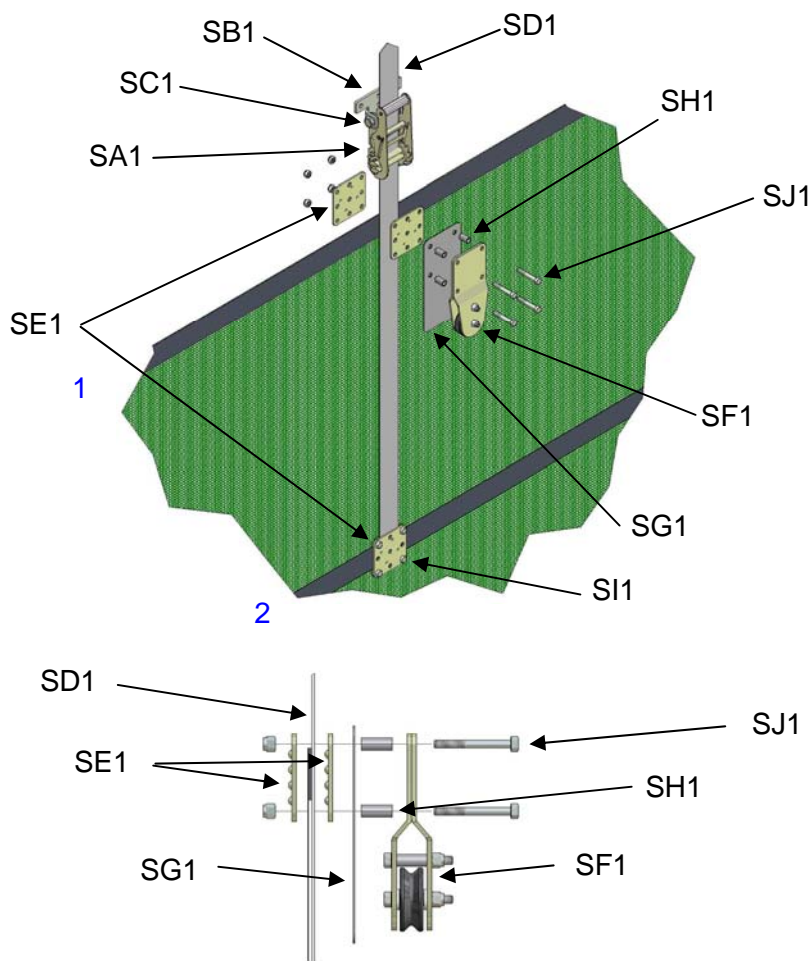

Figure 17
5.2 Fix the Ratchet (SA1) to the Ratchet Bracket (SB1) with the M12 x 90mm bolt (SC1) provided. The standard fitting of the ratchet bracket is depicted in Figure 17, but it can be reversed if vertical mounting space is limited. Fit assembly to the building with three fixings, minimum size 8mm.
5.3 Referring to Figure 17. Fix vertical webbing strap (SD1) to second strap down on the door using the Clamp Plates (SE1) and M8 x 20 Bolts (SI1) provided. Repeat process on top strap but use the M8 x 50 Bolts supplied (SJ1) and include the Wire Support Assembly (SF1), Spacers (SH1) and Wire Support Protection Pad (SG1). Feed webbing through ratchet and ensuring a minimum of 150mm of webbing is around the ratchet barrel operate handle to lift the door. Continue to adjust ratchet until top of door is level.